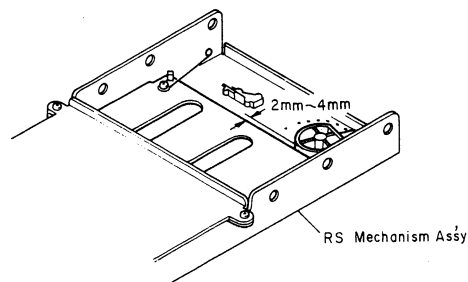

Fig. 2.19
- (1) Pull out the connector CN604 on the Logic P.C.B. Ass'y.
- (2) Ground TP604 to set the cassette case to its side A.
- (3) Adjust VR607 to obtain a gap of 2 to 4 mm as shown in Fig. 2.19.
- (4) Ground TP603 and TP604 to set the cassette case to its side B.
- (5) Adjust VR606 to obtain a gap of 2 to 4 mm as shown in Fig. 2.19.
- (6) Ground only TP603 to set the cassette case to its eject position.
- (7) Adjust VR605 to the position where the cassette case is about to start rotation.
- (8) Repeat above steps (2) to (7) two or three times.
- (9) Plug CN604 into the original place.